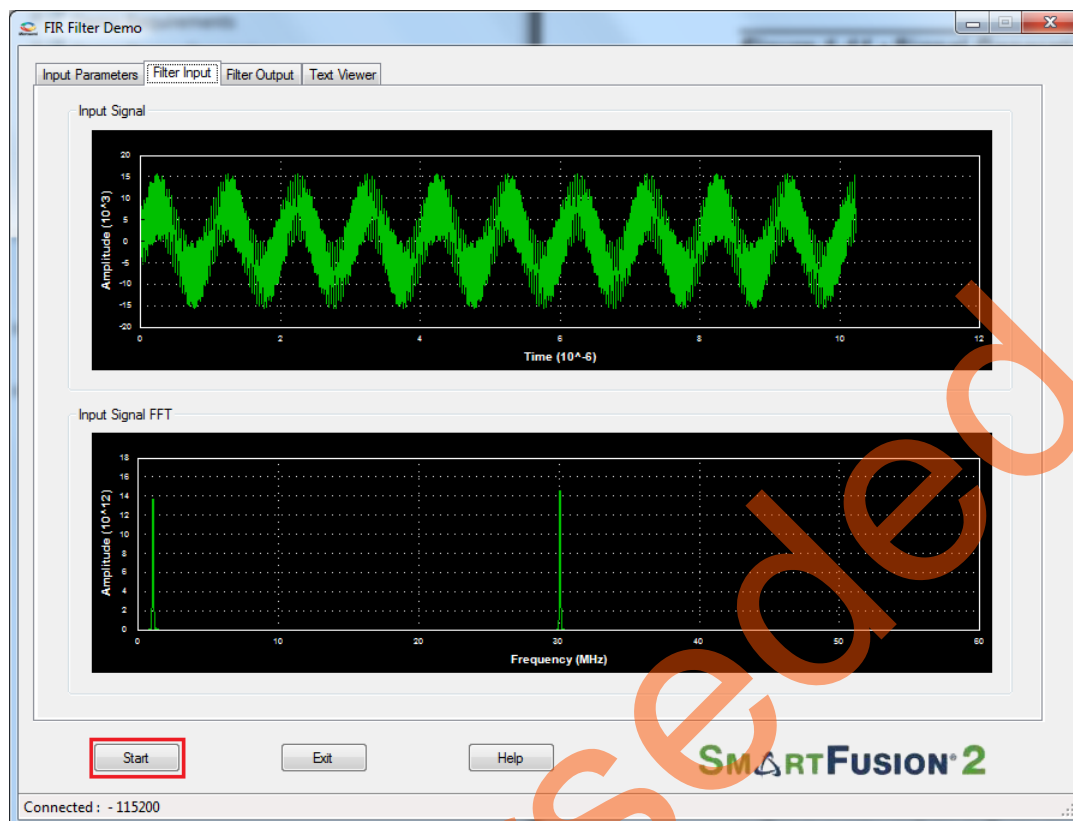

Figure 16 • DSP FIR Filter Demo Start
7. To configure the input frequencies and coefficients click **Start**. Refer to Figure 16 on page 21. It sends the input data (1K samples) and filter coefficients to the SmartFusion2 device for processing the filtering operation.